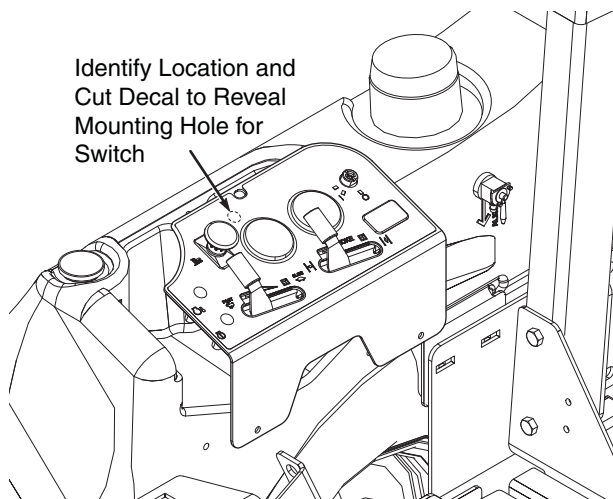

Figure 3. Reveal Mounting Hole for Switch
4. Remove the dash panel from the right hand fuel tank. Identify the location of the hole provided in the panel. Carefully cut the dash panel decal to reveal the mounting hole for the light switch. See Figure 3.